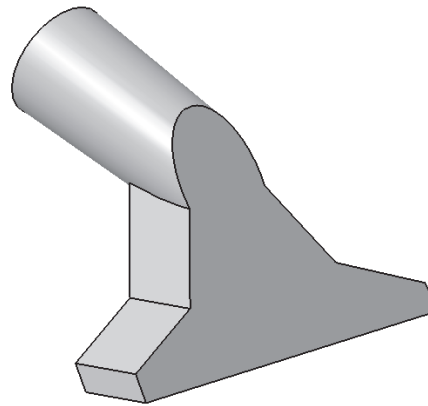

Figure 6-80 Model after creating the pocket feature
11. Using the **Hide/Show** tool, hide Sketch1, Sketch2, Plane1, and Plane2. The model, after creating the third feature, is shown in Figure 6-80.